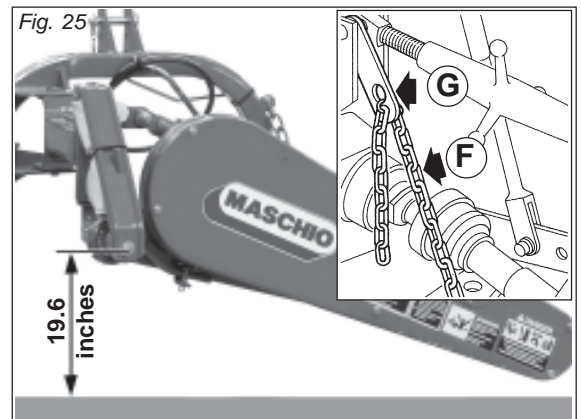

Fig. 25
- Using chain (F, Fig. 25), adjust the height of the sickle bar attachment with respect to the tractor. Attach the appropriate link to the special plate hole (G, Fig. 25). Adjust the height of the mower on the basis of the height shown in Figure 25. Mark the link used so that the same position may be used each time the sickle bar is fitted to the tractor.